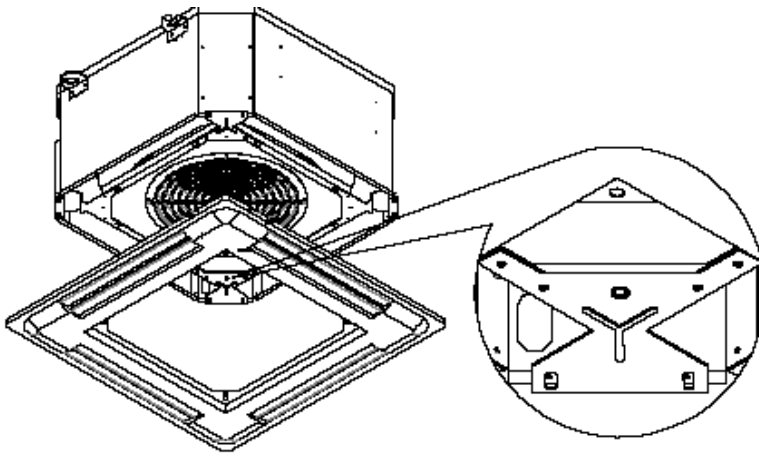
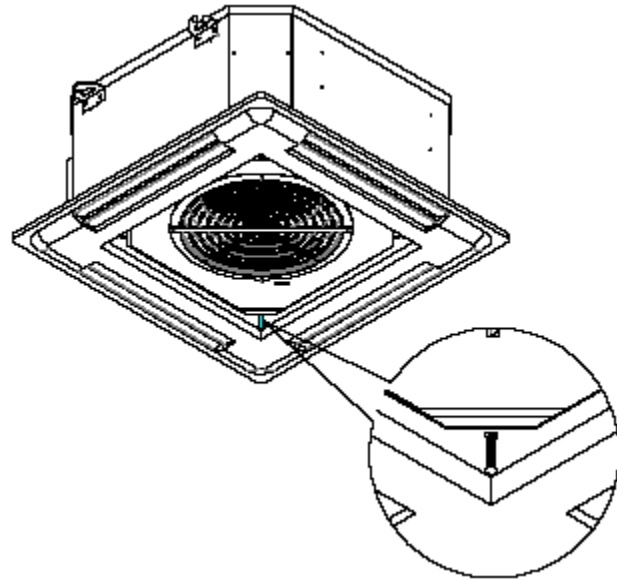

Figure 26
Figure 27
3. Tighten 4 screws as shown in Figure 26 and Figure 27.